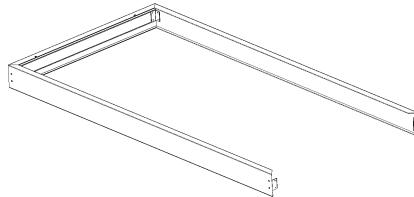

Figure 2
- Repeat this until you have 3 sides all together (Figure 2)